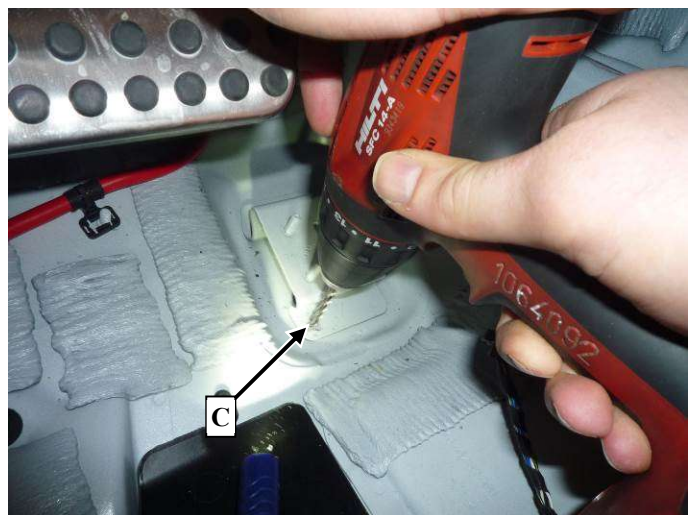

Figure 4
- The left-side (**Figures 4 & 5, C**) must be drilled first and then riveted (**Figure 6, D**).